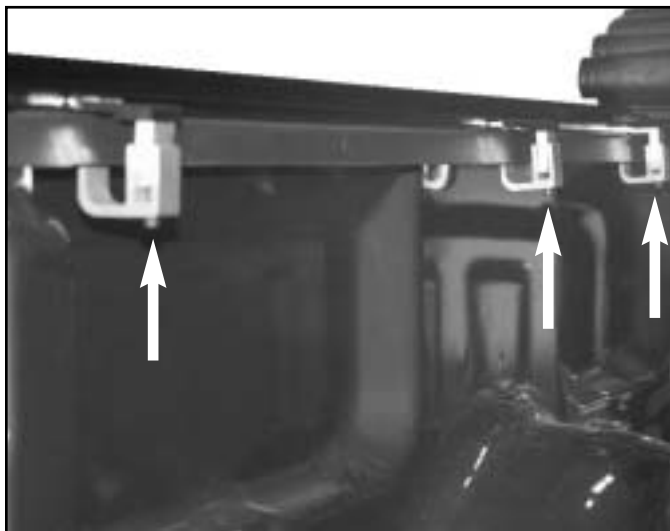

Figure S-43
6. Remove the six (6) lower clamp arm retainers and lower clamp arms. See figure S-43.
16. Loosely install the lower clamp arms and fasteners to the upper clamp arms. Refer back to figure S-43.